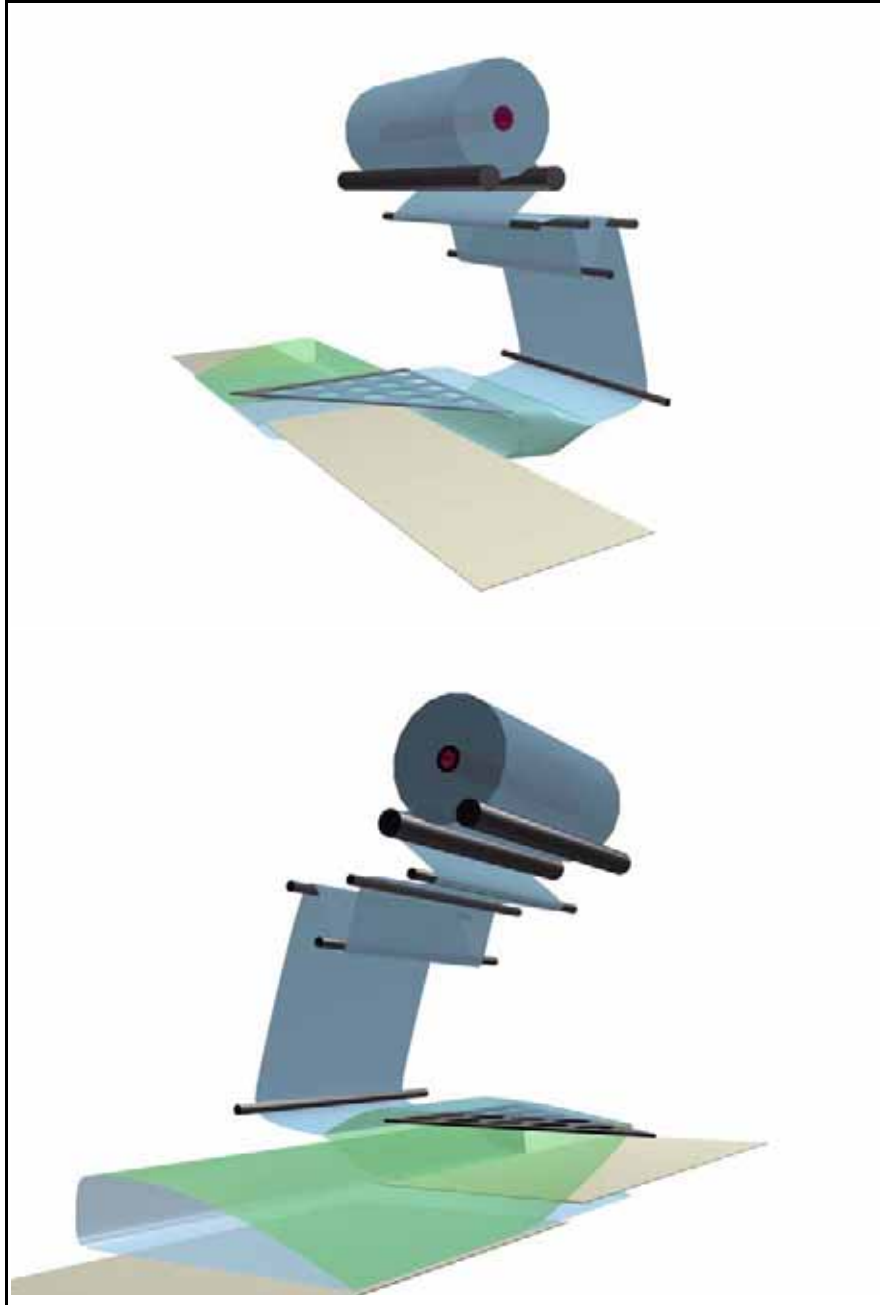

Figure 5-5. Standard Film-Threading Diagram
- 1 Thread the film through the film rack. Refer to Figure 5-5 below.